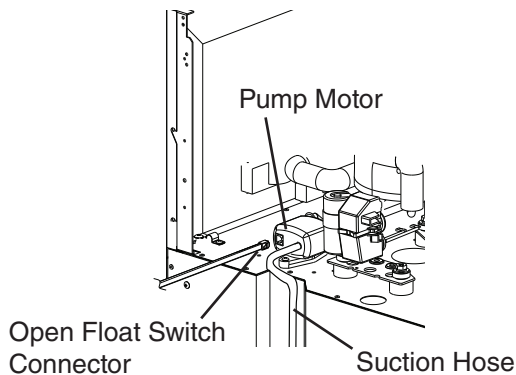

Fig. 4
- 3) Remove the reservoir and float switch from the accessory bag. Uncoil the float switch cable only. **NOTICE! Do not remove the nylon ties securing the plastic bag to the reservoir and protecting the float switch connection.** Next, plug the open float switch connector into the pump. See Fig. 4.